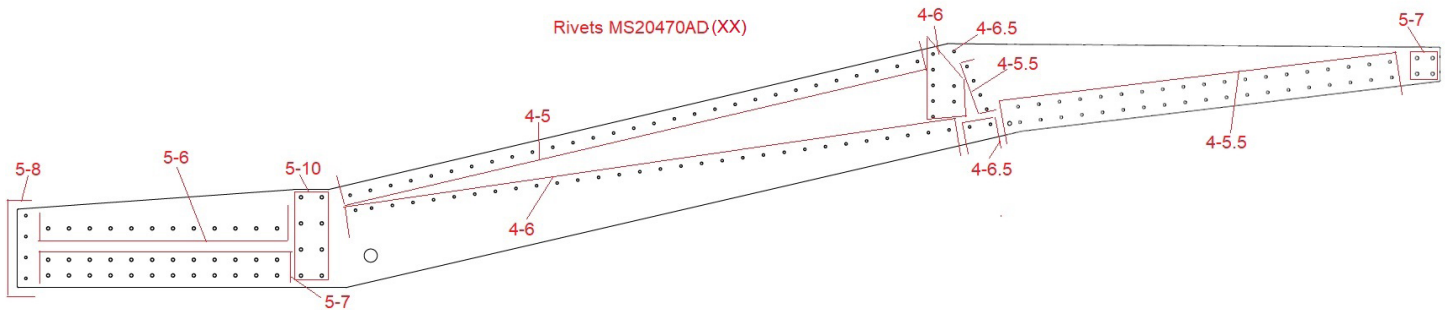

Figure 8
14. Fit new carry thru strap to float p/n 1006339 (LH) or p/n 1006340 (RH)
15. Apply sealer to new carry thru strap and rivet into place (see Figure 8).